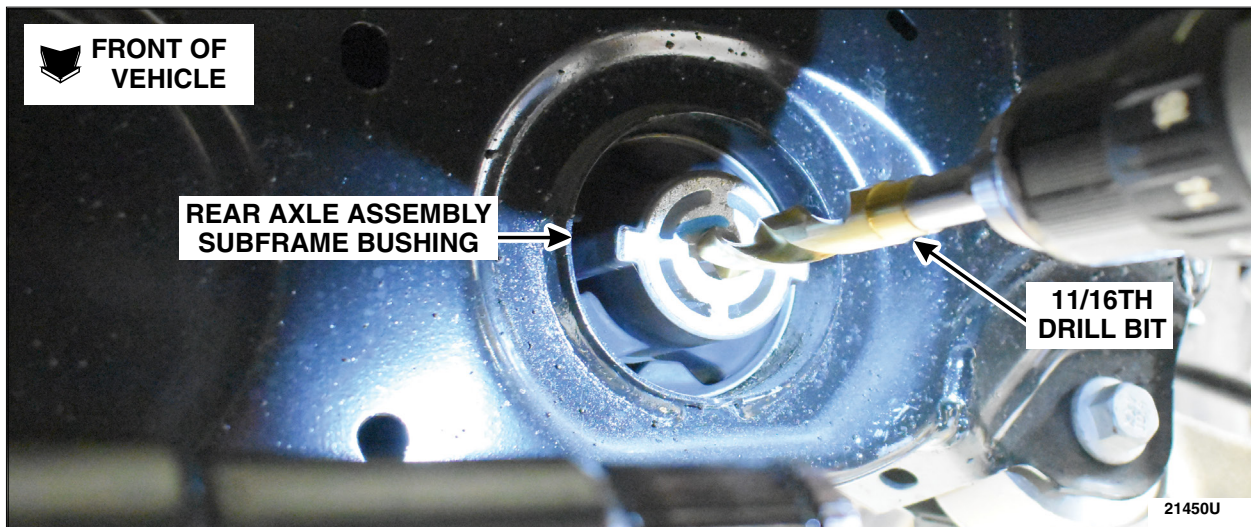

FIGURE 3
7. Using an 11/16th or larger drill bit drill out the rear axle assembly subframe bushing bolt hole. See Figure 3.